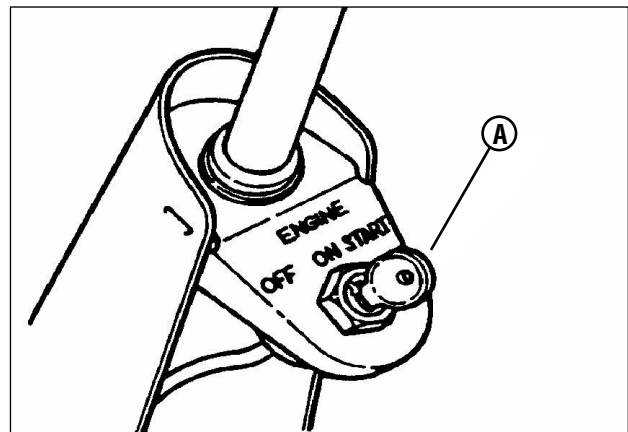

Figure 9: Key
6. Turn the key (A, Figure 9) to the “ON” position.